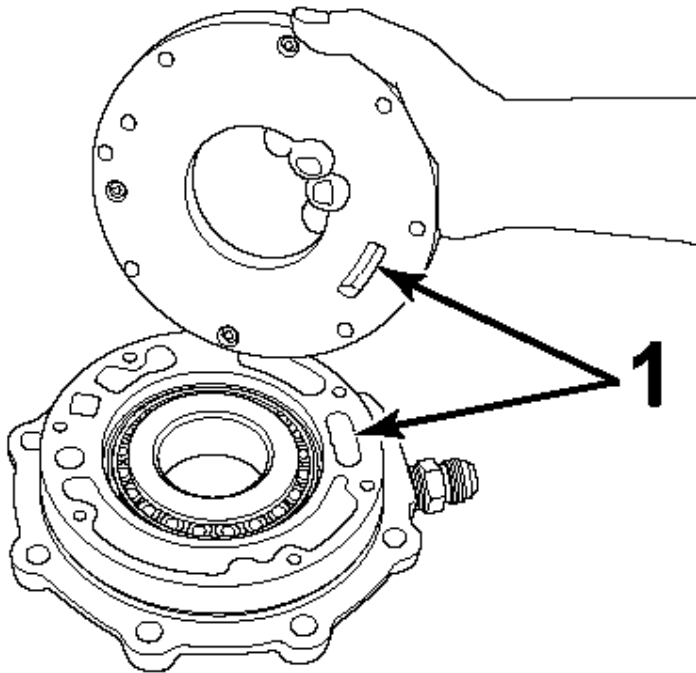
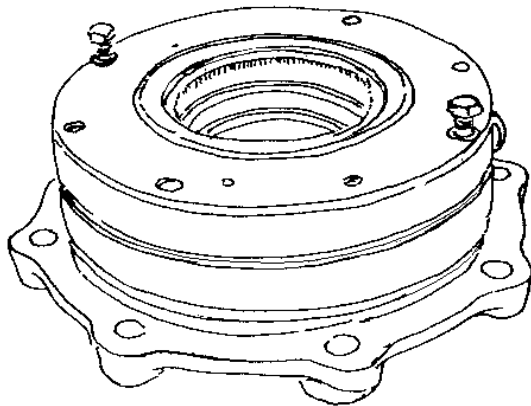

Figure 13 Align New Oil Pump
Figure 14 Loosely Install Two Bolts
20. Align oil relief port and inlet port. Pour a generous amount of oil into the pump oil inlet port (Figure 13) while spinning the inner rotor by hand before assembling the oil pump to the input cage. Loosely install two, pump to cage, bolts to aid alignment during installation on the shaft (Figure 14).